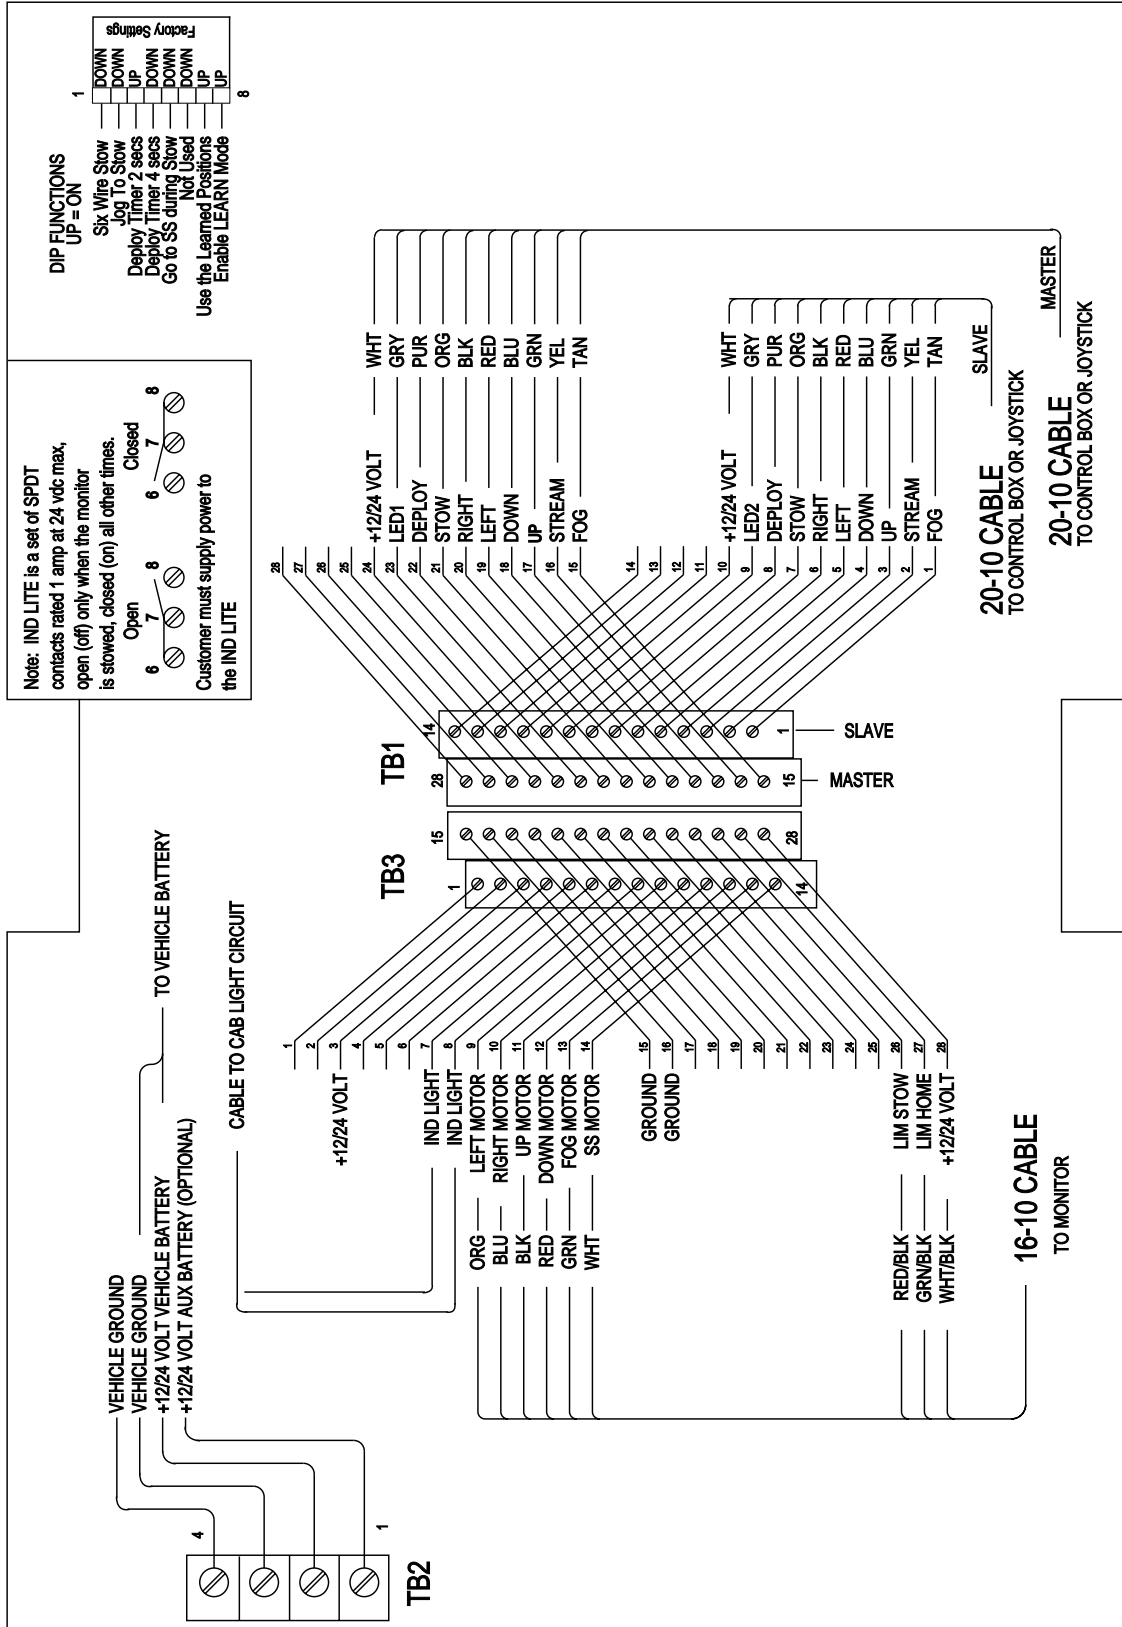

Figure 3
**STEP 6** Remove the 6 logic box cover screws and set the logic box cover aside. Thread the 7 wires through the upper or lower control hole in the logic box (see component layout, Figure 3). Thread the cable grip washer and cable grip nut with the threads facing the box on the cable. Pull enough cable through the cable grip to ensure a good fit. Tighten the cable grip nut and attach the individual wires to the proper terminals (see wiring schematic Figure 2). Reattach the logic box cover and secure with the 6 screws.
**STEP 7** Remove the cable grip nut for the wiring harness cable from the logic box, DO NOT REMOVE THE CABLE GRIP. Thread the cable grip nut on the wiring harness (#16-6) cable with the threads facing out. Thread the cable through the correct logic box cable grip (see component layout, Figure 3) so the cable grip nut will grab the outer cover of the cable. Tighten the cable grip nut and attach the individual wires to the proper terminals (see wiring schematic Figure 2). Reattach the logic box cover and secure with the 6 screws.